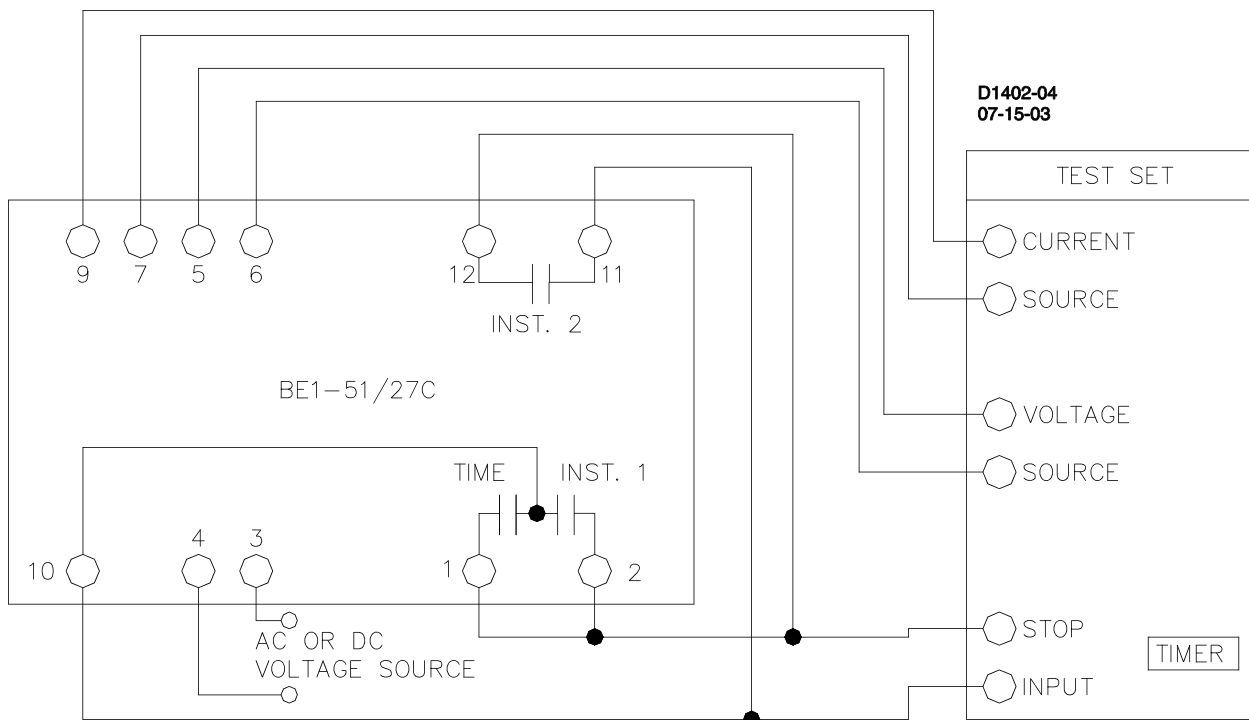

Figure 5-1. Test Setup for Sensing Input Type L (Single-Phase Sensing)
Minimum test equipment required for relay testing and adjustment is listed below. Refer to Figures 5-1 through 5-6 for test setups.
Step 1. Connect the relay test setup in accordance with Figures 5-1 through 5-6, depending upon the sensing input type (see Figure 1-1, *Style Number Identification Chart*).
(a) Sensing Input Type L (Single-Phase Sensing). Refer to Figure 5-1.